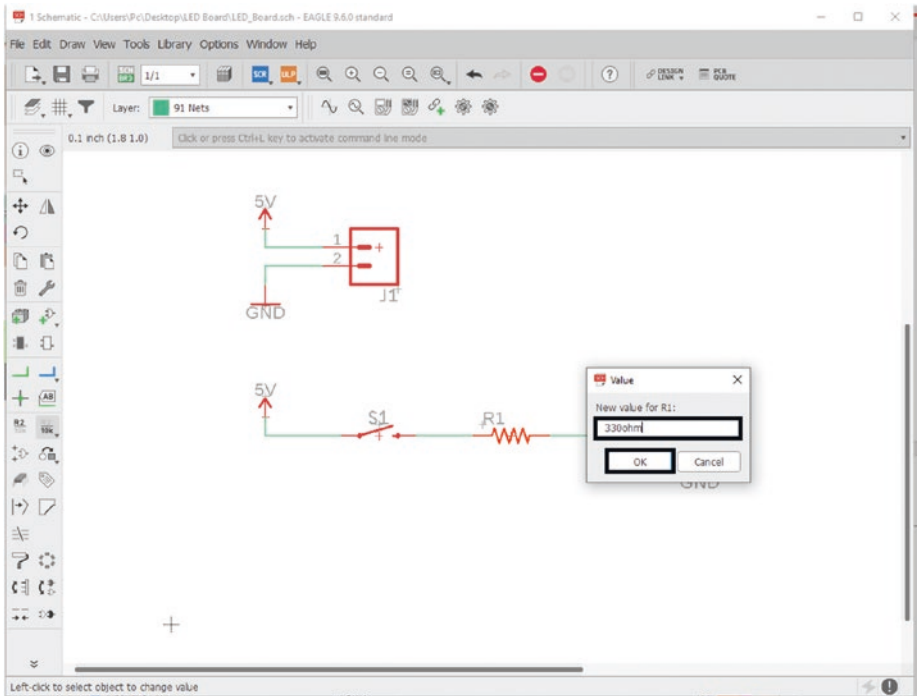

Figure 5-49. Set the value of R1
- 37. In order to add a value to the resistor, right-click the “+” on the resistor and select “Value” on the pop-up menu. Then enter “330ohm” and click “OK.” See Figure 5-49.